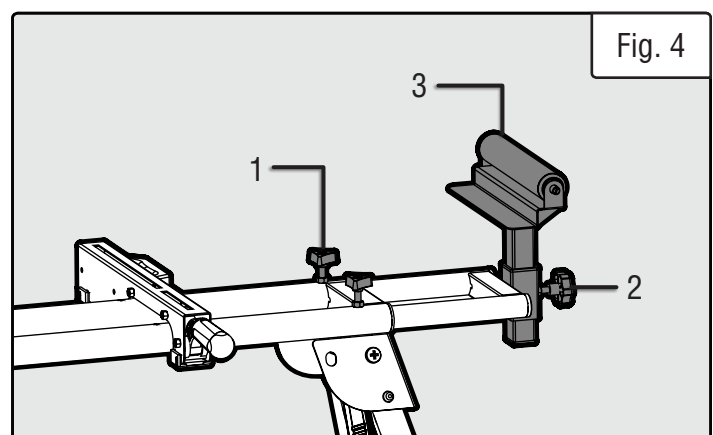

Fig. 4
1. With the extension arms inserted into the main frame, install extension arm lock knobs (Fig. 4 - 1), two on each end of the frame. Slide extension arms to a suitable distance to provide maximum support for your workpiece, and lock the arms in position by tightening lock knobs.
2. Insert the rollers into the extension brackets and secure each roller with a roller lock knob (Fig. 4 - 2).
Turn the roller so the stop face side (Fig. 4 - 3) faces the miter saw. Adjust the height of the roller so that the stop face is level with the surface of the miter saw's table. Adjust the relevant extension arm until the stop face is at the required stopping distance.